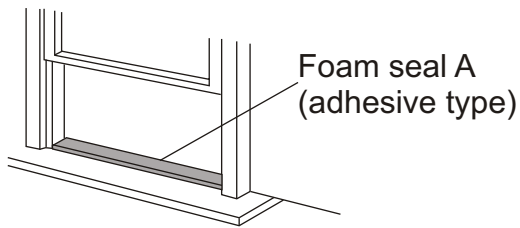

Fig.8
1. Cut the foam seal(adhesive type) to the proper length and attach it to the window stool. Fig.8